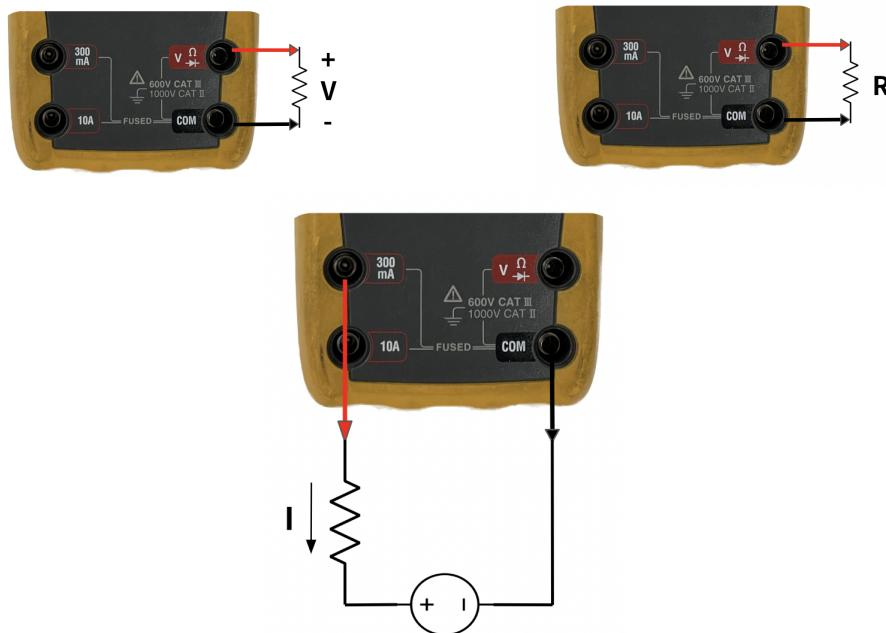

Figure 15: Voltmeter (left), Ammeter (middle), Ohmmeter (right)
- Attach the **positive end** of the measured voltage with the multimeter clip denoted by the **red arrow** in Figure 15
- Attach the **negative end** of the measured voltage with the multimeter clip denoted by the **black arrow** in Figure 15